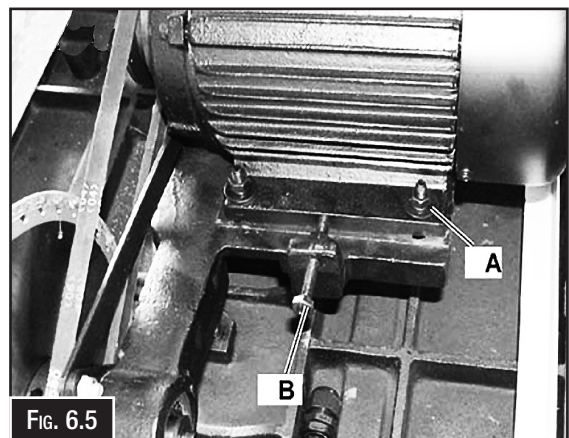

FIG. 6.5
8. Loosen motor mounting 4-M8x40 hex head screws (A) & loosen the tension bolt (B). (Fig. 6.5)